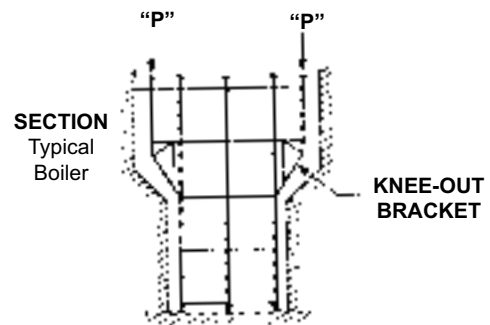
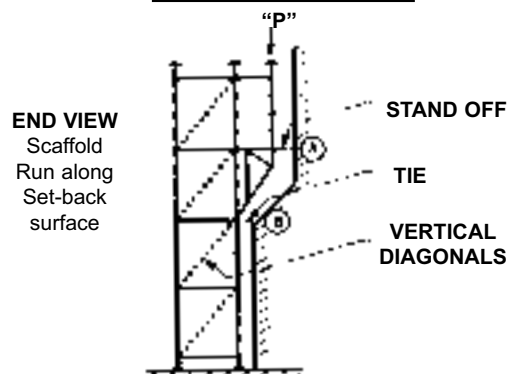

FIGURE 1
FIGURE 3
Allowable concentrated load for knee-out brackets (SKO) are shown on page B-8. Loads in table below may be used when knee-out brackets are installed in symmetrical scaffolds as shown in figure 1 and 2, and in non-symmetrical scaffolds when auxiliary bracing is installed to prevent overturning and racking. See figure 3.
Non-symmetrical assemblies similar to figure 3 require a stand-off at (A) and a tie-in at (B) on each frame line with knee-out brackets. In addition, vertical diagonals (SDW) may be required in each frame plane. Contact Safway Engineering or a Structural Professional Engineer familiar with scaffold design prior to erecting such non-symmetrical scaffolds.